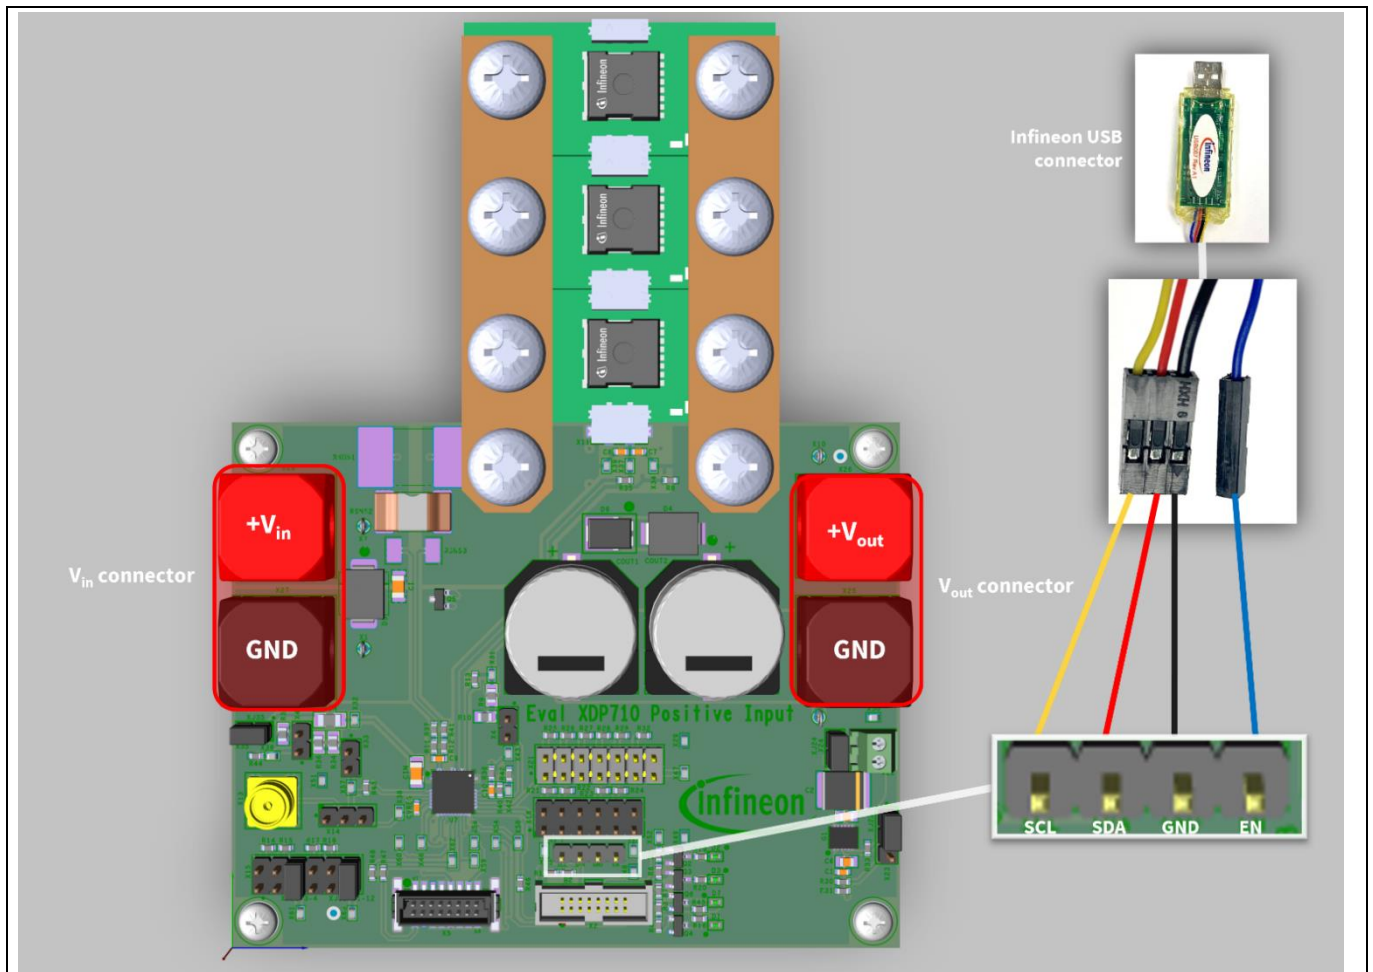

Figure 18 XDP710-002 Evaluation Board and dongle setup
- Connect the USB007 dongle to the XDP710-002 Evaluation Board X3 as shown in Figure 18.